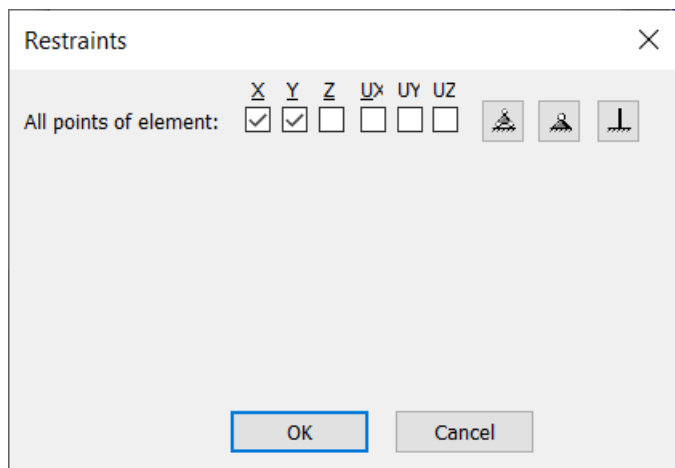

Figure 23.15. **Restraints** dialog box
- in the **Restraints** dialog box (see Fig. 23.15), select the check boxes for X and Y;